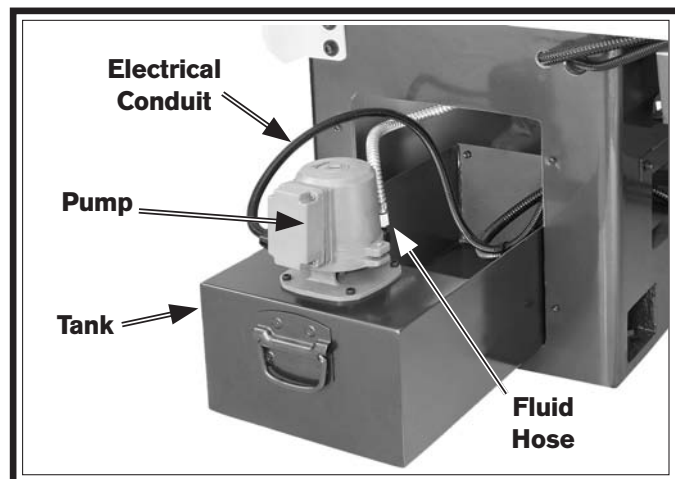

Figure 110. Coolant tank and pump.
2. Remove the vented access cover from the rear of the right stand, then slide the tank out, as shown in **Figure 110**.
6. To enable the remaining fluid to be poured out in the next step, disconnect the fluid hose from the pump (see **Figure 110**).